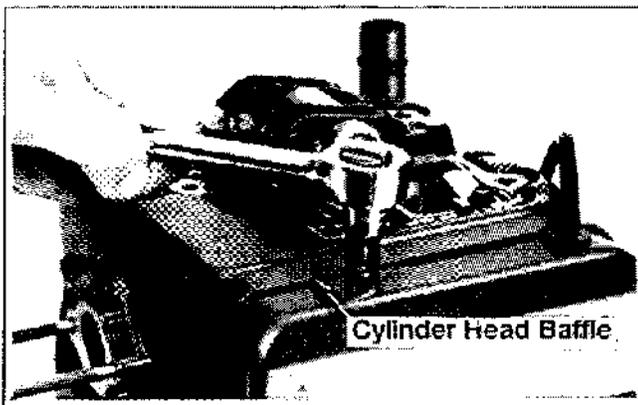

Figure 9-19. Removing Cylinder Head Baffle.
1. Remove the hex flange screws securing the cylinder head baffle to the cylinder head. See Figure 9-19. Remove the baffle.